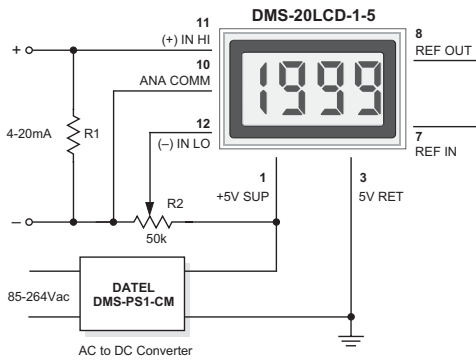

Figure 7. 4-to-20mA Current Loop Operation (5V-Powered Models)
5. Process Control (4-to-20mA) Measurements: In many common process-control applications, a 4-to-20mA current loop is used to transmit information. Because DMS-20LCD meters have such high input impedance, a simple shunt resistor across the meter's input can be used to convert the loop current to a voltage. See Figure 7. The value of the shunt resistor is a
To calibrate the circuit of Figure 7, perform the following: